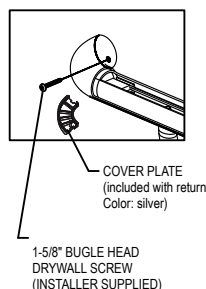
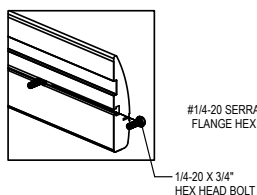
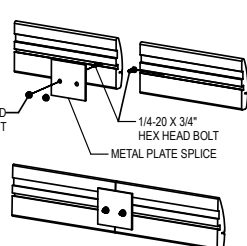

FIG. 5a
FIG. 5b
FIG. 5c
- Slide the hex head of the 1/4-20 x 3/4" bolts into the channel on the back of the wood wall guard. Slide them into position so they align with the holes in the bracket extensions. See Figure 5a. With lengths longer than 12', use a metal plate splice and 1/4-20 x 3/4" bolts to join sections. See Figure 5b. Attach the wood wall guard to the bracket extension using a serrated flange hex nut at each location. See Figure 5c. The handrail aluminum is 3/8" shorter than the wall guard. Center the wallguard aluminum between the ends of the handrail aluminum.